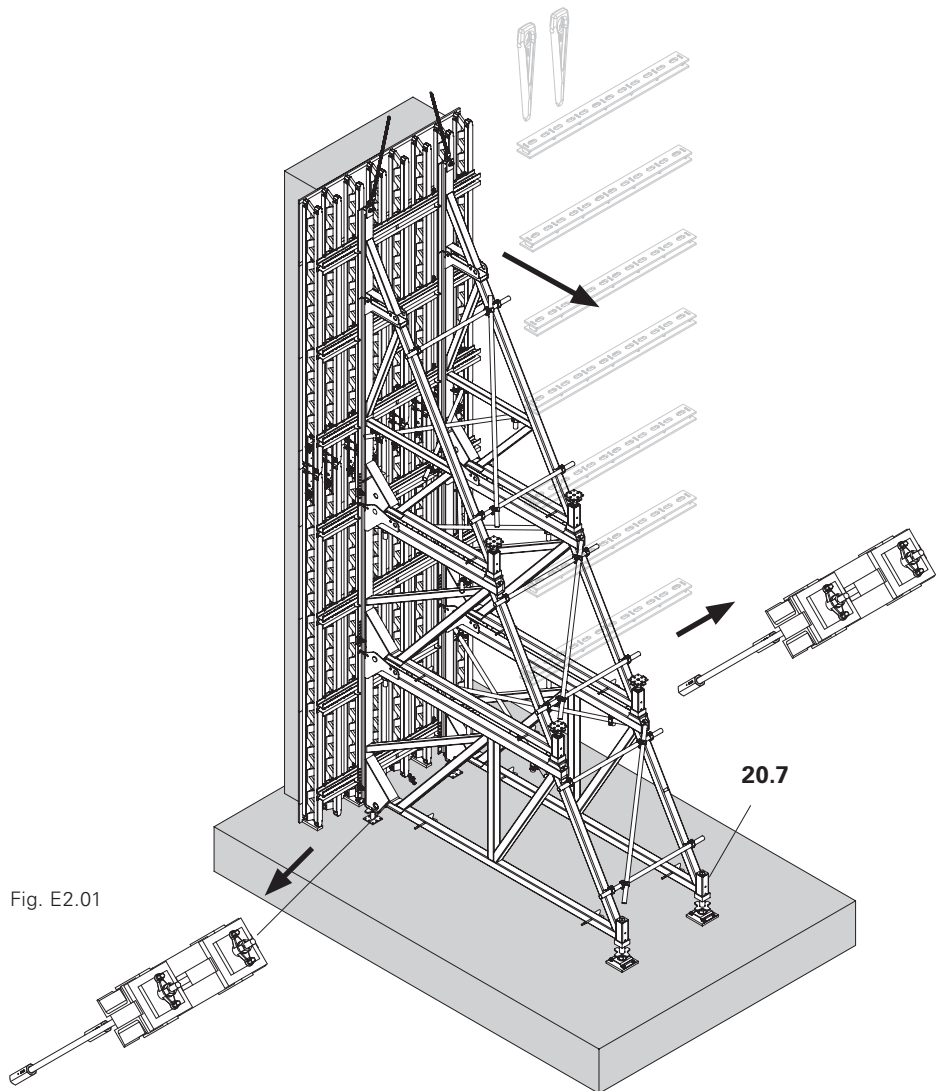

Fig. E2.01
3. Relieve load on Brace Frame SB-A0, A, B: with rear spindle (20.7). (Fig. E2.01)